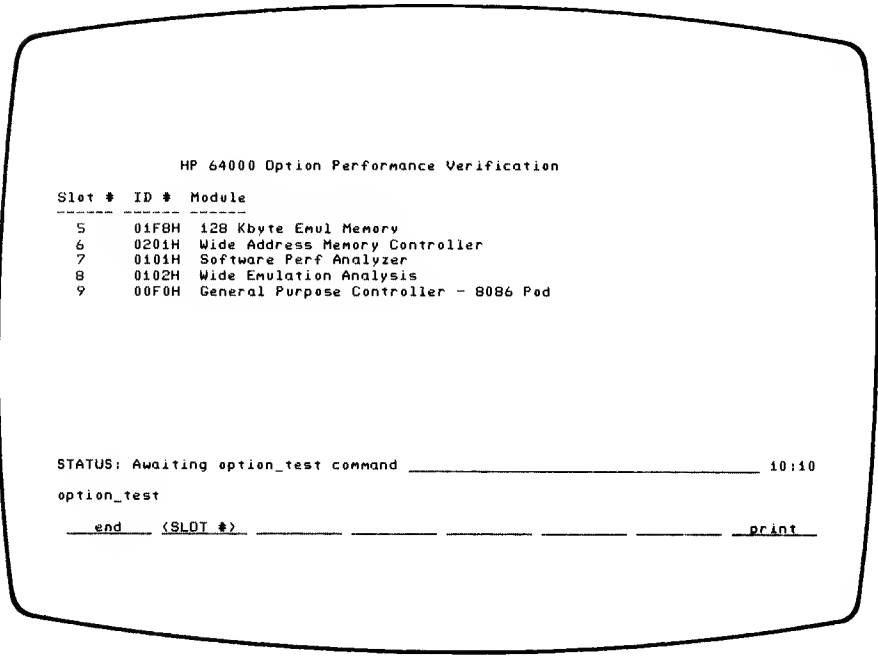

Figure 4-2. Card Cage Directory Display
- b. The PV now displays a directory of the installed option boards and their card slot numbers, figure 4-2. The first step in the PV is to locate the card slot of the Model 64310A Software Performance Analyzer and enter the slot number; for example, if it is in slot 8 of the card cage, enter: